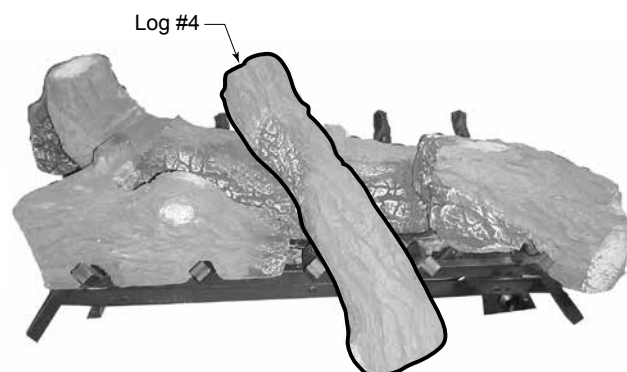

Figure 5.4 - Place Log #4
4. Place log #4 by aligning the 'V' notch on bottom of log with horizontal grate bar between tines as shown in *Figure 20*. Place the rectangular notch on bottom of log onto the matching rectangular protrusion on log #1. *Figure 5.4*